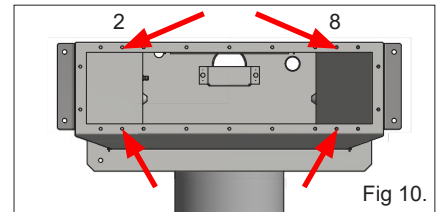

Fig 10.
7. Mount the wall cladding (fix, tile, mosaic, etc.). Make sure that the mounting holes (see Fig. 10) for fastening the frame are free, so that the mounting frame can be installed later.